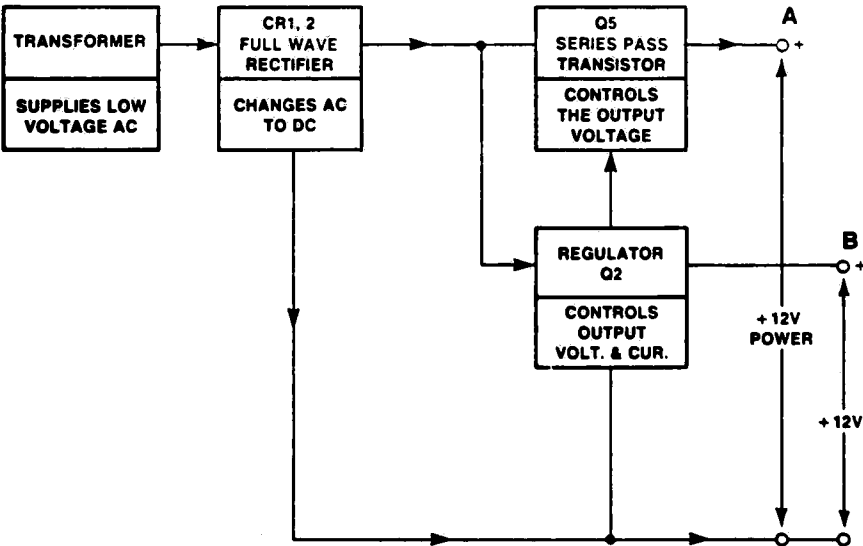

Figure 3-18. PRINTCON 12-VOLT POWER SUPPLY.
+12 VDC at 0.1 amp, voltage regulated (Figure 3-18).
+12 VDC at 1.5 amp, voltage regulated (Figure 3-18).
2. The +12 VDC regulated output is supplied by the +18 VDC unregulated circuit. The regulated +18 VDC supplies the integrated circuit regulator Q2 which regulates the output voltage (Point B, Figure 3-18).
3. The +12 VDC power output is also supplied by the unregulated +18 VDC power supply. Series pass transistor Q5 uses the +12 VDC regulated supply as a reference to regulate the +12 VDC power output (Point A, Figure 3-18).